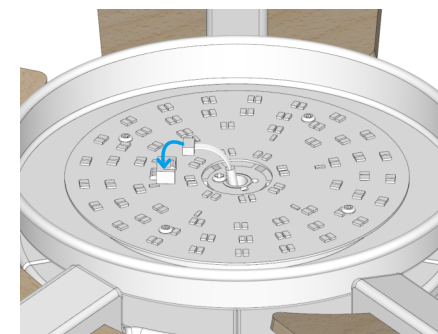

Fig. 4.2
4.2 Connect the wire plug to the light kit's terminal block as demonstrated in Fig. 4.2.